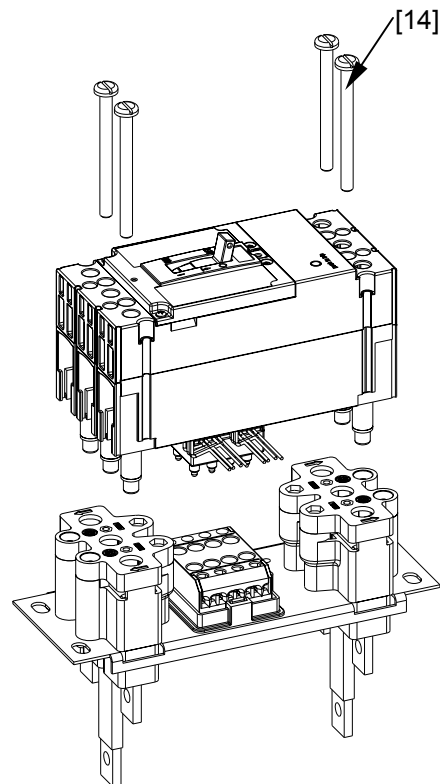

Figure 10. Breaker installation.
1. With breaker in OFF position, install breaker by aligning male plugs with tulip connection and pressing firmly in place, as illustrated in Figure 10.